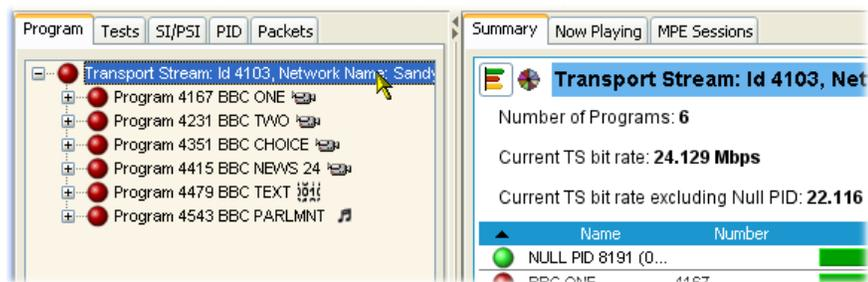

Figure 81: Program count
2. Expand the Transport Stream tree and note the number of program nodes (see Figure 81).